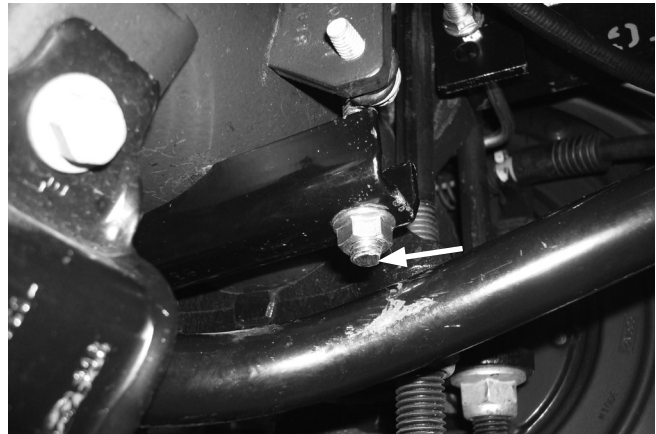

Fig. 20
- On vehicles that have a sway bar, cut the front carriage bolt just below the nut, so it does not contact the sway bar (Fig. 20).